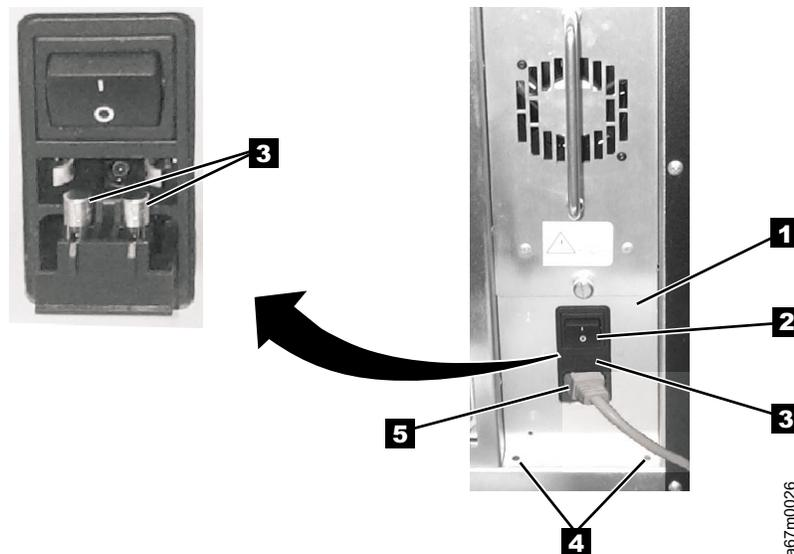

Figure 7-42. ac Input Module Removal and Replacement
2. Problem which sent you here may be caused by blown fuses (5A) on the ac Input Power Module. Refer to Figure 7-42 for location of fuses. If fuses are blown, replace fuses and power up the Library. If fuses continue to blow, perform Procedure Remove the “ac Input Power Module”.
See Figure 7-42 for locations of components in the following procedure.